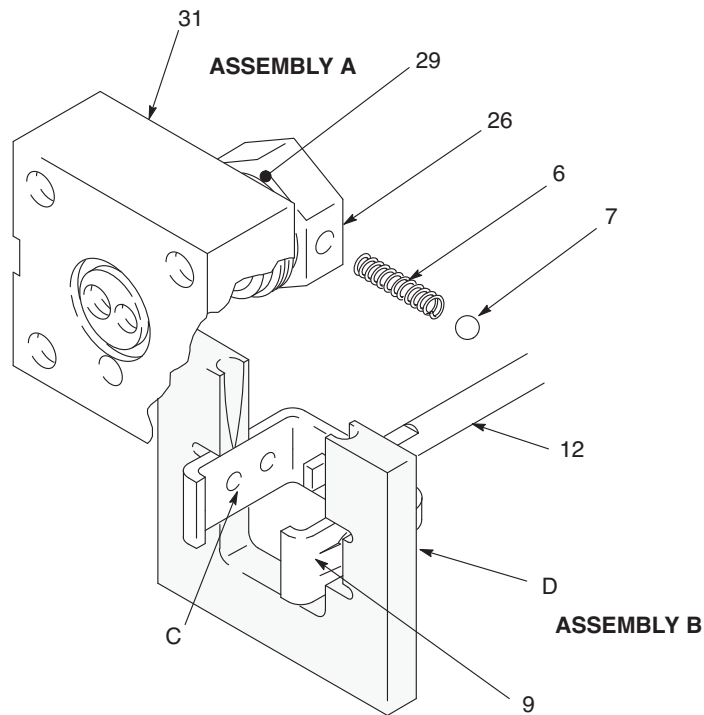

FIG. 11
13. Lay Assembly A and Assembly B on the work bench. (FIG. 11)
14. Slide Assembly B into the center of the tool (D). Align the upper detent holes (C) of the guide yoke (9) with the center line of the tool (D). (FIG. 11)
15. Insert the spring (6) and one ball (7) into the valve stop (26) of Assembly A. Tilt the valve stop, and start guiding it into the tool (D), making sure the ball is sliding into the rounded slot in the tool (D). Place the other ball at the other end of the spring, and push it in with your thumb while rotating the valve stop (26) until the spring is horizontal and the balls are in place. Continue holding this assembling together. (FIG. 11)
16. Slide the valve stop assembly down onto the tool. Make sure the balls (7) snap into the upper set of holes (C) in the guide yoke (9), and the curved ends of the guide clamp have engaged the valve sleeve (29) groove. (FIG. 11) Slide the tool (D) back over the rod (12) to remove it.